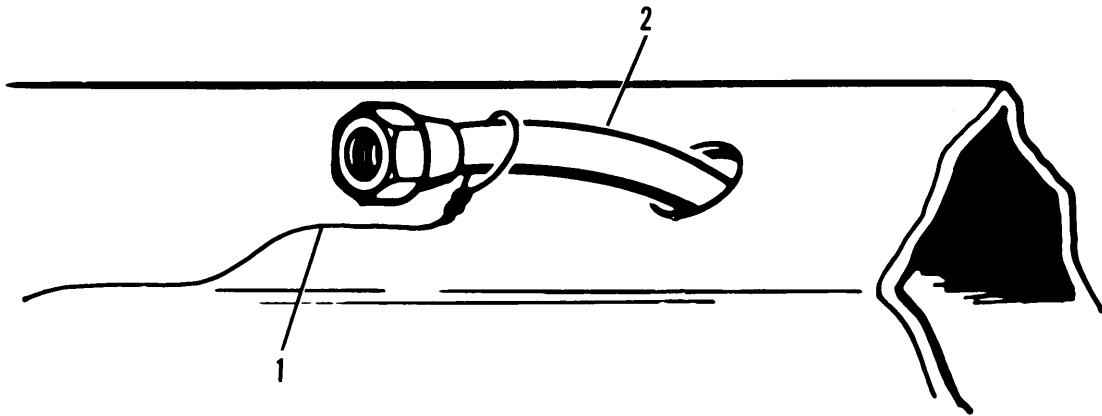

Figure 4-30. Air Lines
- (1) Short air lines.
- (2) Long air lines.
- (b) Tie a length of lockwire (1, fig. 4-30) to one end.
- (c) Pull the air line (2) and lockwire (1) out of frame. Do not remove lockwire as it is needed to install air lines.
(2) Long air lines.
- (a) Tie the length of lockwire (1, fig. 4-30) that was used during removal to one end of the air line (2).
- (b) Feed the air line (2) through the frame while carefully pulling the Lockwire (1).
- (c) Connect the air line (2) end.
(3) Close drain cocks.
(4) Pressurize air brake system.
(5) Check for leaks (para. 4-30).